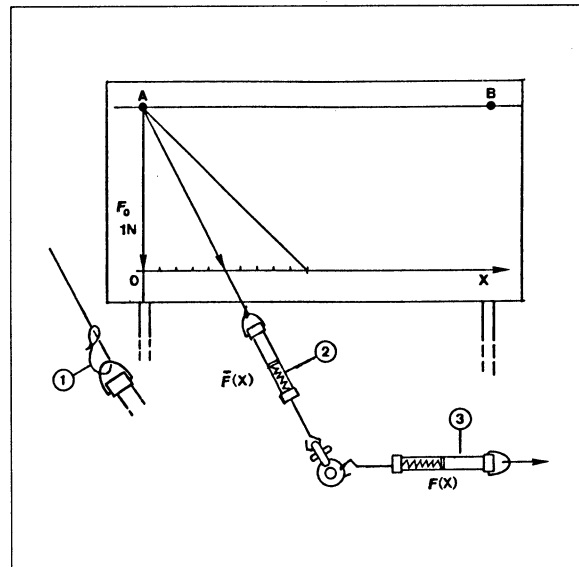

Fig. 3 Experimental setup according to fig. 1, for measuring the force of $F(x)$ in the direction of the cord.
8. Insert the 1.5 N dynamometer between the cord and weights, as shown in fig. 3.
9. Incline the pendulum so that it coincides with the value markings along the x-axis, as you did before. Use the 3 N dynamometer for this purpose ► Fig. 3.